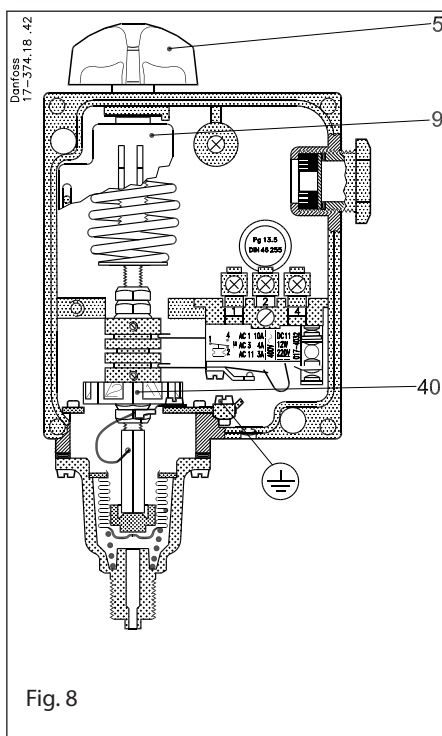

Fig. 8
The range is set using the setting knob (5) fig. 8 while reading the range scale (9). The pressure set is the break pressure for contacts 1-4 (see fig. 13).
The RT 200L must be set using the setting knob (5) fig. 8 page 9 at 3.5 bar (35 m wg) minus the fixed differential of 0.2 bar.
The neutral zone,  $35 - 32 = 3$  m wg, corresponding to 0.3 bar, must be set on the neutral zone disc (40) fig. 8 page 9. According to the diagram fig. 12 the disc setting is 1 or just over. A more accurate setting can be obtained by using the test setup shown in fig. 14.